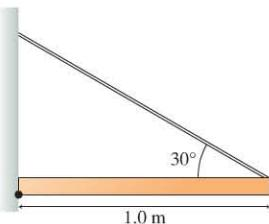

FIGURE P8.10
10. **III** A uniform beam of length 1.0 m and mass 10 kg is attached to a wall by a cable, as shown in Figure P8.10. The beam is free to pivot at the point where it attaches to the wall. What is the tension in the cable?